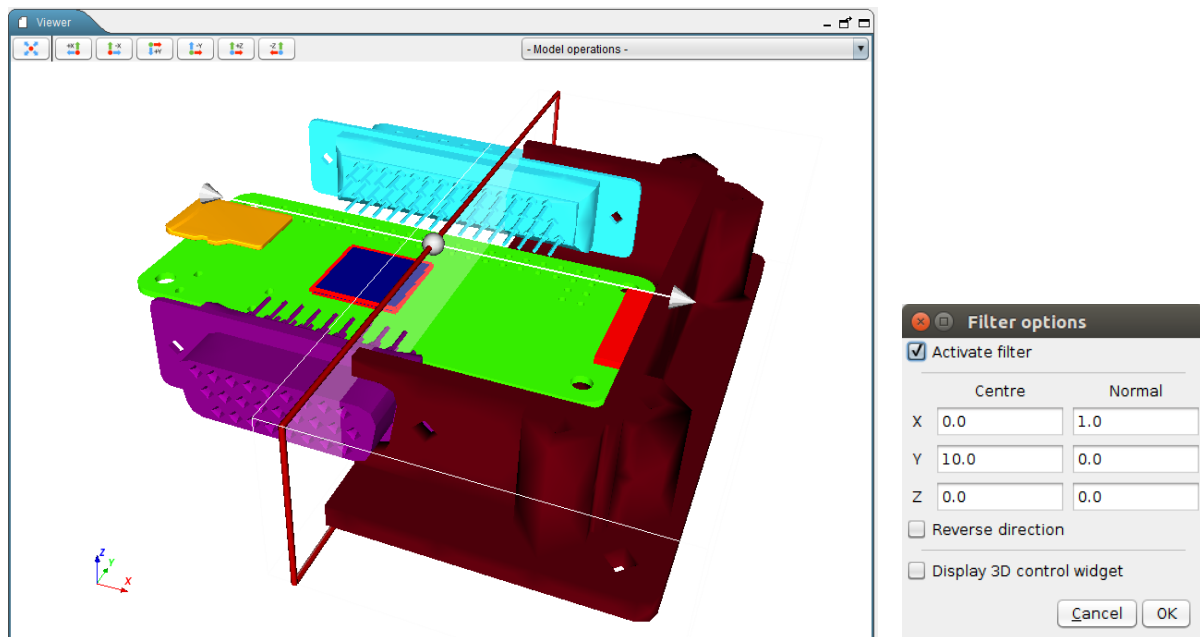

Figure 10: Clipping filter applied on Raspberry Pi Zero housing with the 3D control widget enabled (left) and clipping control pane (right)
- The two buttons on the right side allow performing actions on the currently selected shape(s). The first one () opens a dialog box to apply a transformation to all the elements currently selected (see section 5.4). The second one () offers the possibility to use a clipping filter. This button triggers the apparition of a dialog box allowing the user to set the parameters of the clipping filter, see Figure 10. This filter performs a cut in the geometry to view more precisely the inner geometry of the mod-
elled system. The clipping is set with the coordinates of a centre point and a normal direction. It will keep the geometric representation of the selected element in the half-space defined by this point and the normal. To get a more interactive setting, you can select the “*Display 3D control widget*” that will display an interactive control in the 3D view to change the clipping. These 3D controls of the filter are materialised by a sphere (representing the centre of the clipping operation) and an axis with two arrows (representing the normal direction), see Figure 10.